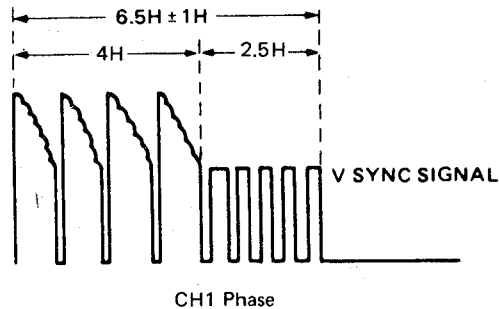
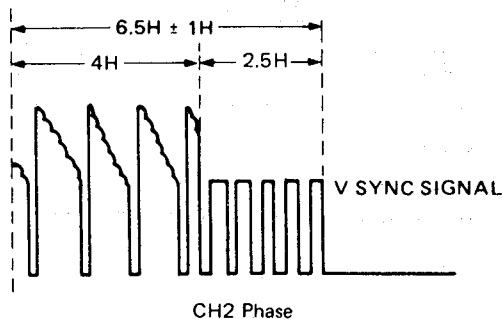

Figure 40
Figure 41
4. Set the synchronized slope on the oscilloscope to (+), and adjust R743 such that the trace is as shown in Figure 40. Next, set the synchronized slope to (-), and adjust R745 such that it is as shown in Figure 41.